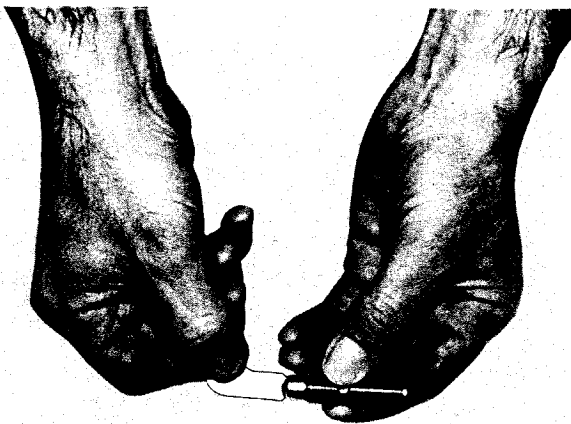

Fig. 3-4, (N20305). Checking rocker lever adjusting screw ball end
2. The ball end of rocker lever adjusting screw must be a true sphere. Check with 1/4 inch [6.35 mm] radius gauge. Fig. 3-4. Replace if flat at bottom or there is evidence of scratching or galling. Check thread condition on all screws and in levers. Check closely for threaded distortion at assembly position of locknut. Screws must run freely through levers.